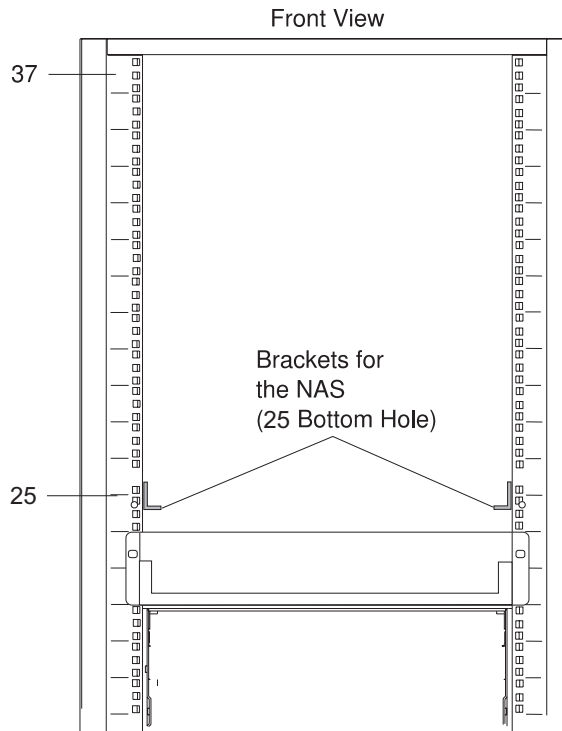
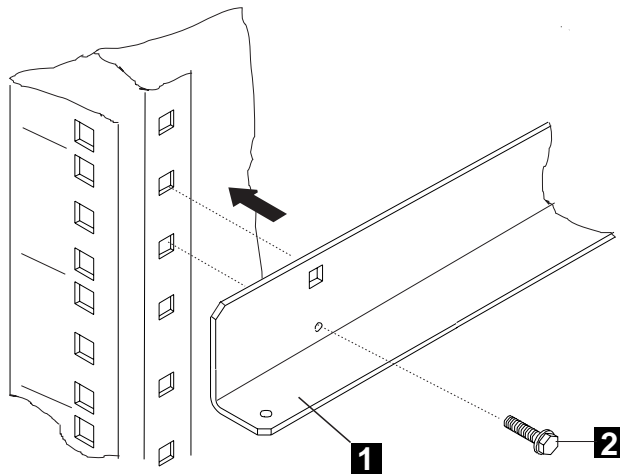

Figure 1-5. Bracket Positioning for the NAS in a 37U Rack
Figure 1-6. Brackets Installation
1. ____ Install the brackets (PN 43G3111) for the NAS if not already done. See Figure 1-5 for bracket positioning and Figure 1-6 for bracket installation.